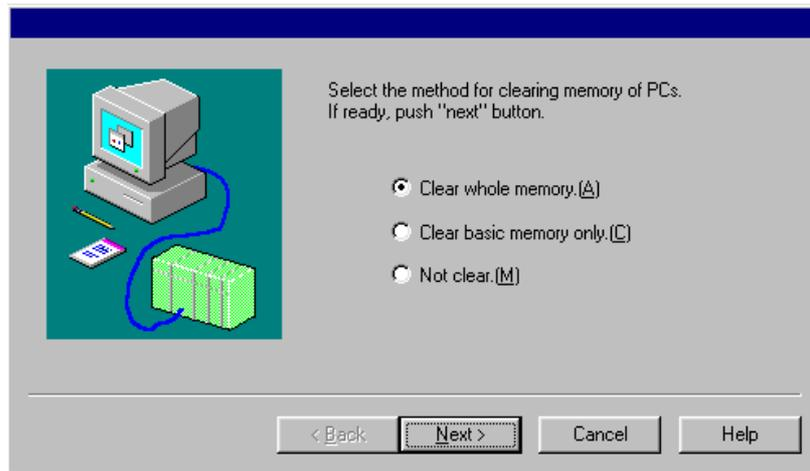

Figure 3-11 [Restore] Window (Memory Clear Confirmation)
- (4) When the PCs is reset or powered off and then back on again, a window to query whether or not to clear the memory before starting the restore process (Figure 3-11) is displayed.